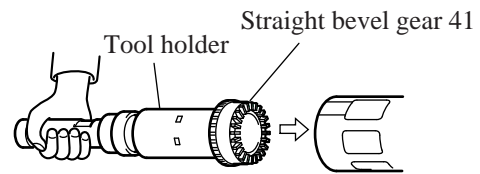

Figure 16
- b. To set the straight bevel gear 33, use the tool holder for smooth setting. (See the figure 16.)